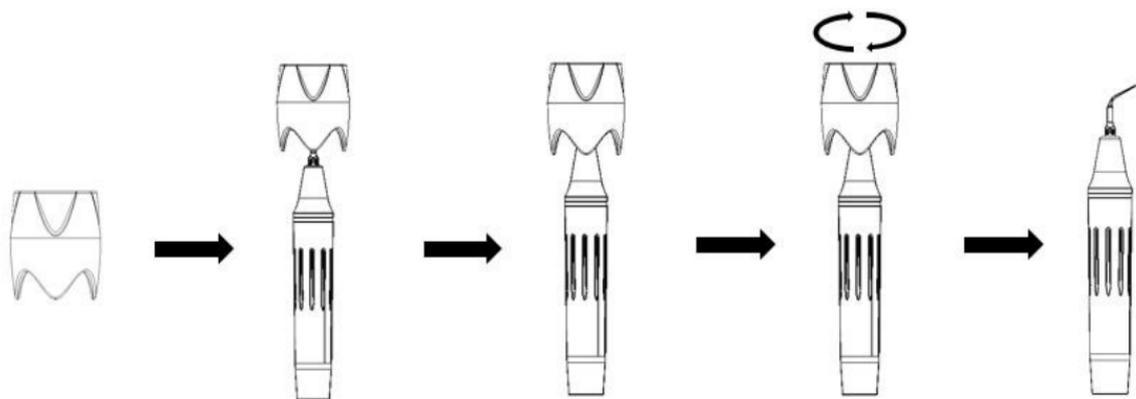

Figure 2.7
The design of torque wrench adopts a special structure, which can ensure the user can effectively load and unload the tip and protect the user's hand during use, and it can avoid be scratched by the tip when load and unload the tip(See Figure 2.7):
5) Fasten the tip to the handpiece with torque wrench (See Figure 2.7), and then correctly connect the handpiece with the handpiece cord socket. Before installing the